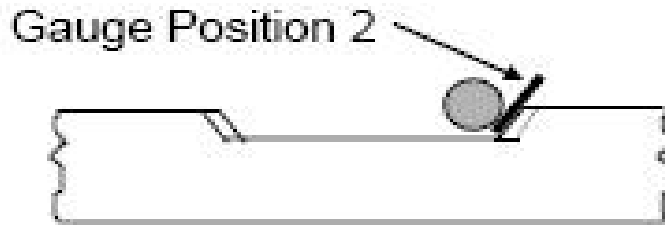

Figure 6 - Gauge Position 2
- 3.9 Using the 2mm gauge (Position 2 – Figure 6), check that detection remains made by reference to the meter.